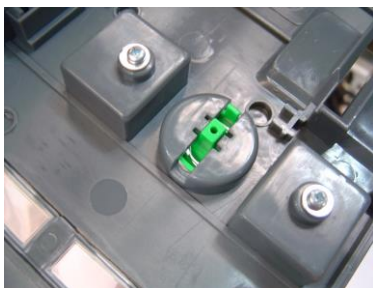

Fig 11. Push button assembly
14. Insert the push button and the spring from the front of the fascia. Assemble them to the fascia with the screw & washer as shown in fig 11.